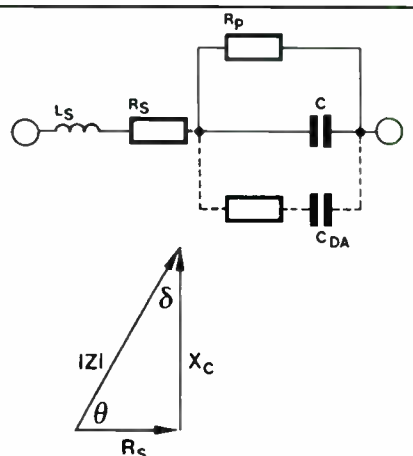

FIGURE 1: Equivalent schematic of a capacitor, with the vector diagram.
Unfortunately, the reality is a bit more complex. *Figure 1* is a schematic of a capacitor that appears in practically all capacitor literature. The dotted parts are not well known, yet they play an important part in the sound quality. The actual capacitor here is C . In parallel is resistor R_p , the leakage resis-
The dotted components (C_{DA} and R_{DA}) in *Figure 1* represent the dielectric absorption (DA), a little-known property of capacitors. This process involves absorption of electrons in the dielectric, from which originates a sort of memory action, a slowed release of stored energy. This phenomenon has been known for years, yet few manufacturers list a DA value for their products. Dielectric absorption has an important influence on the sound quality of a capacitor.